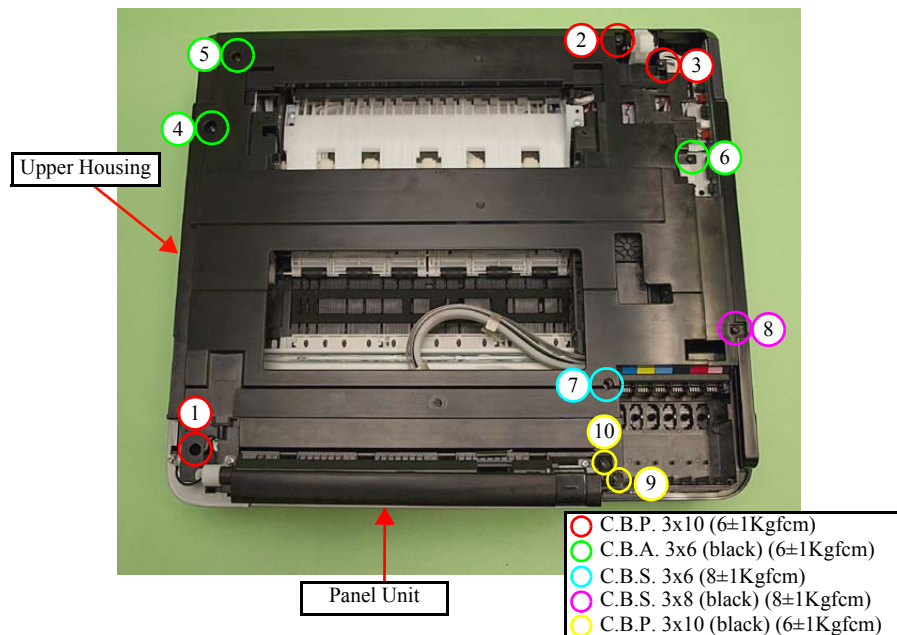

Figure 4-212. Removing the Upper Housing (2)
- Tighten the screws in the order indicated in Fig. 4-212.